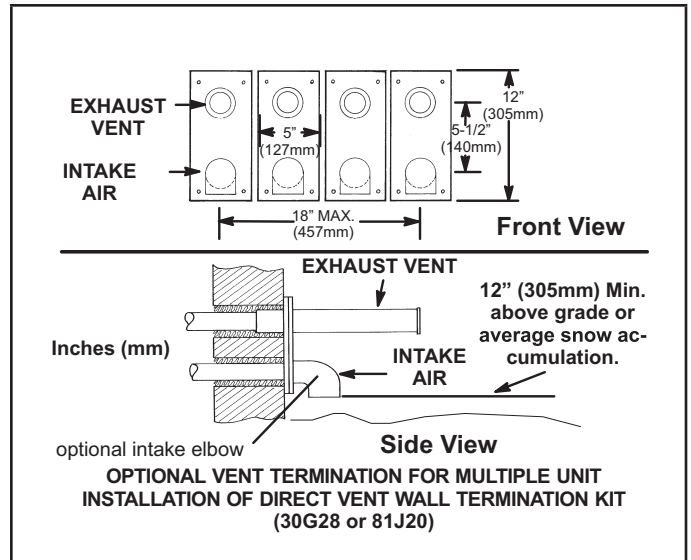

FIGURE 27
- 8 - Based on the recommendation of the manufacturer, a multiple furnace installation may use a group of up to four terminations assembled together horizontally, as shown in FIGURE 27.